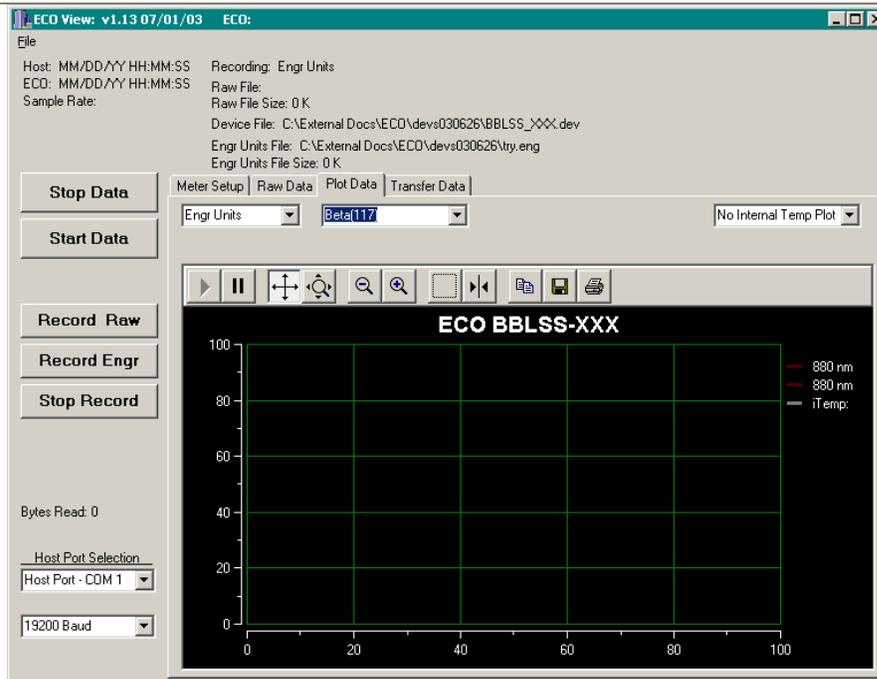

Figure 5. Plot Data tab
2. Go to the Plot Data tab to view the data plot (Figure 5). The X-axis represents sample counts and the Y-axis represents data units, which are user-selectable. You can click on the numbers of either axis and change the values by dragging. Either Raw Data or Engineering Units can be viewed. Fluorometer measurements will be shown in raw counts if Raw Data is selected or $\mu\text{g/l}$ (chlorophyll only) or ppb (parts per billion) (all others) if Engineering Units is selected.
3. If Engineering Units is selected (Figure 5), the backscatter calculation pull-down menu control will allow you to select one of the following for BB meters:
- Beta (117)—The total volume scattering